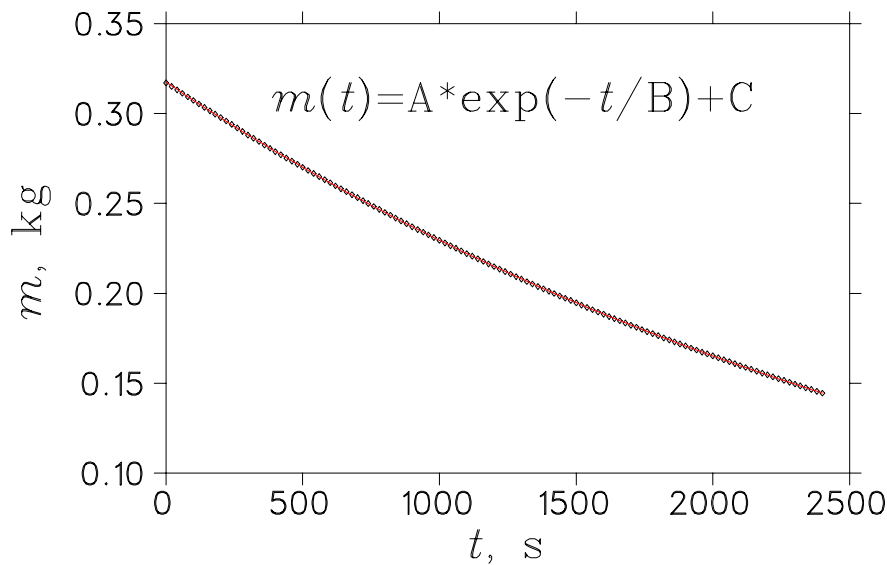

Figure 2.1: Mass of a cup of liquid nitrogen decreases with time due to boil-off
- Now try an exponential fit, $A*\exp(-x/B)$ and note again the χ^2 misfit. Your plot should look similar to the one shown in Fig. 2.1.